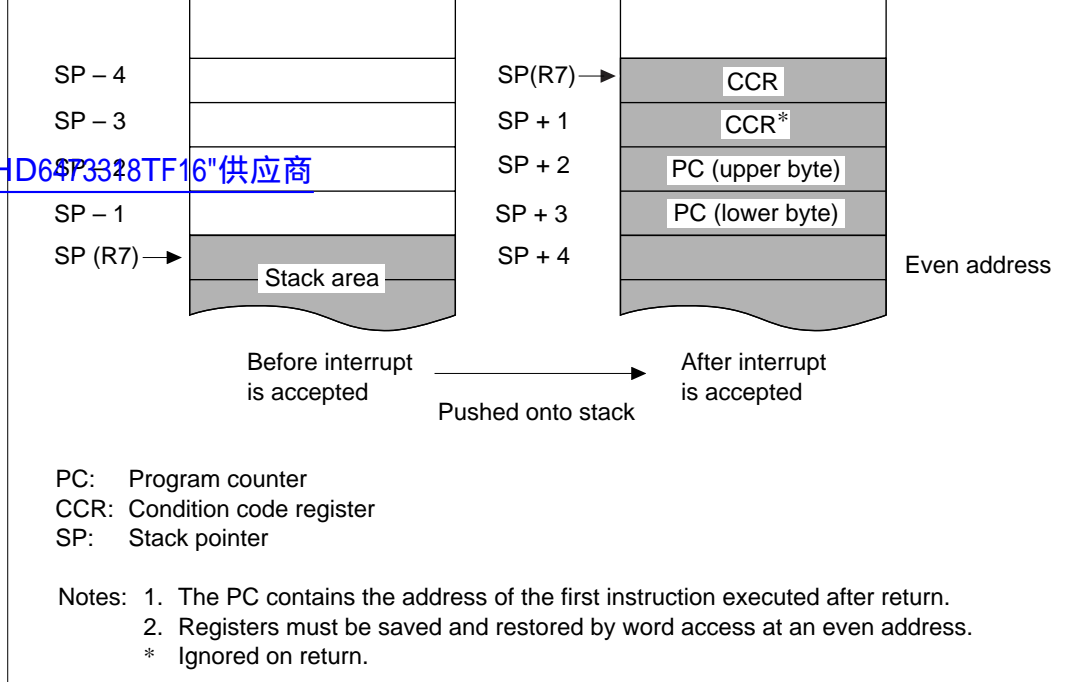

Figure 4.5 Usage of Stack in Interrupt Handling
5. In the hardware exception-handling sequence, the CPU first pushes the PC and CCR onto the stack. See figure 4.5. The stacked PC indicates the address of the first instruction that will be executed on return from the software interrupt-handling routine.